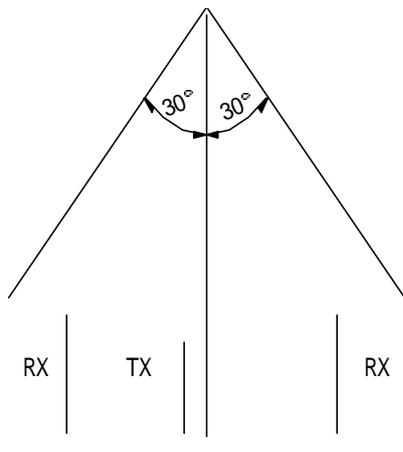

Figure 3-13 Installing the lightning arrester
- 2) Tower lightning arrester mast should be installed separately with the height satisfying lightning protection requirements of all antennae. When the support extends out of the tower platform, it should be ensured that the antenna is within the protection range formed by 30° pitch angle of the lightning arrester apex, as shown in Figure 3-13.